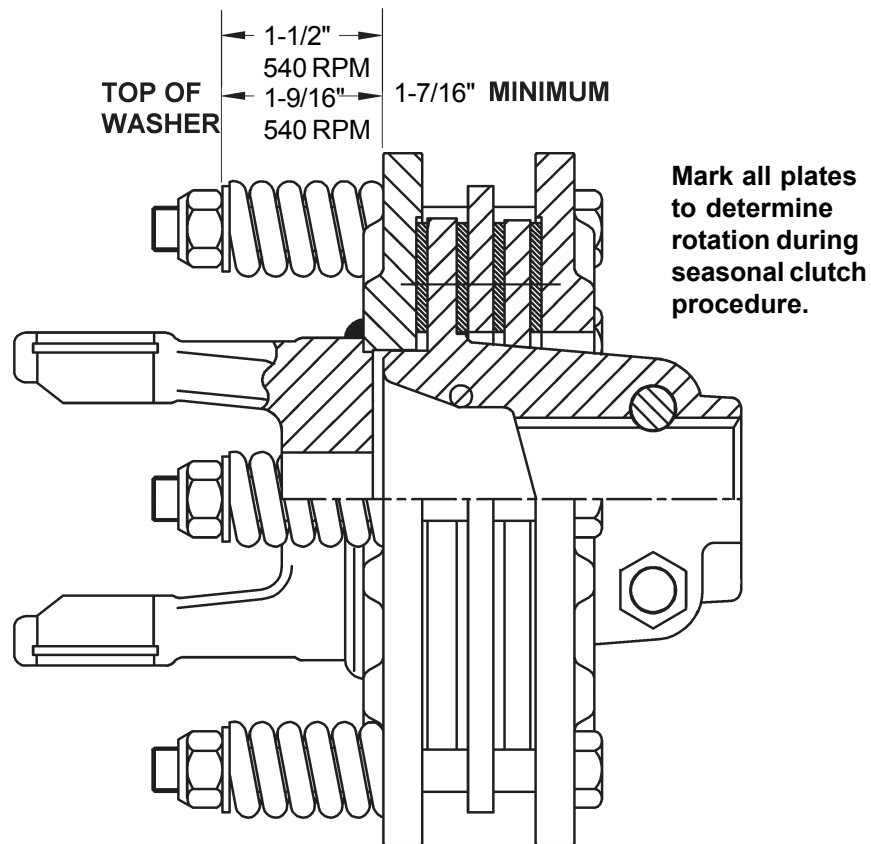

FIGURE 13. Slip Clutch Maintenance
1. Loosen nuts (**Figure 13**) on springs until the springs are free, yet remain secure on bolts.
3. Mark outer plates as shown in **Figure 13**.
5. Turn tractor off. (1) Tighten the nuts on the coil spring clutch to their original position of 1-1/2" for 540 RPM and 1-9/16" for 1000 RPM compressed spring length. (2) (Top of washer to pressure plate)